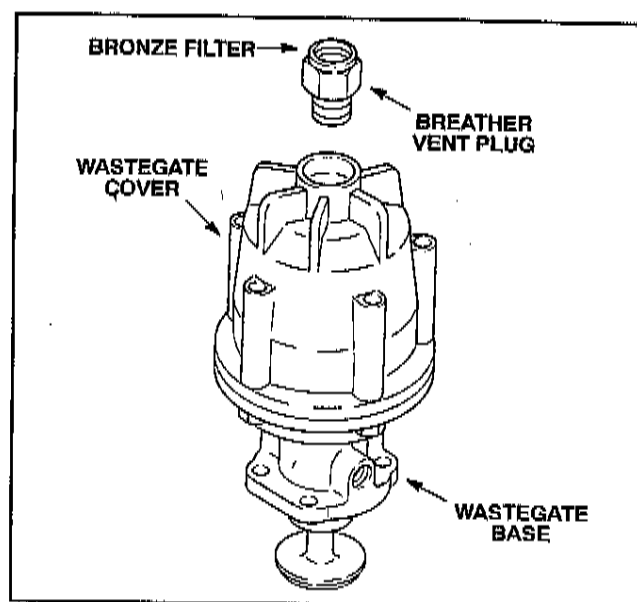

Figure 5.35-21. Wastegate Breather Vent
1. Remove brass vent plug in center of wastegate cover (see Figure 5.35-21).
4. Replace breather vent plug if damaged or missing (see Figure 5.35-21).